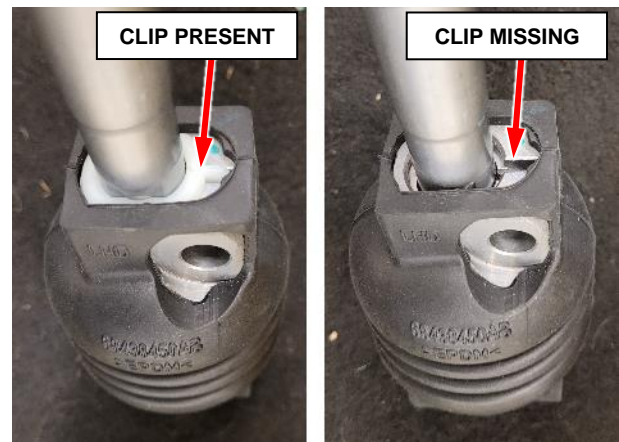

Figure 24 – White Plastic Clip
7. Is the white plastic clip present or missing from the U-joint coupling? (Figure 24)
- Install the white plastic clip to the U-joint coupling (Figure 24).